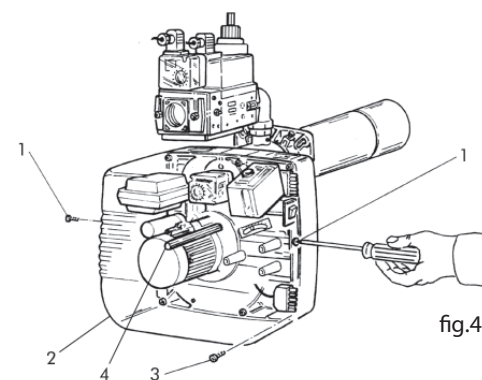

fig.4
To gain access to the main components, remove the cover (fig.4).
- Unscrew the screws 1 and remove the cover 2 (fig.4).
- Unscrew the screws 3 and the central pin 4 (fig.4).